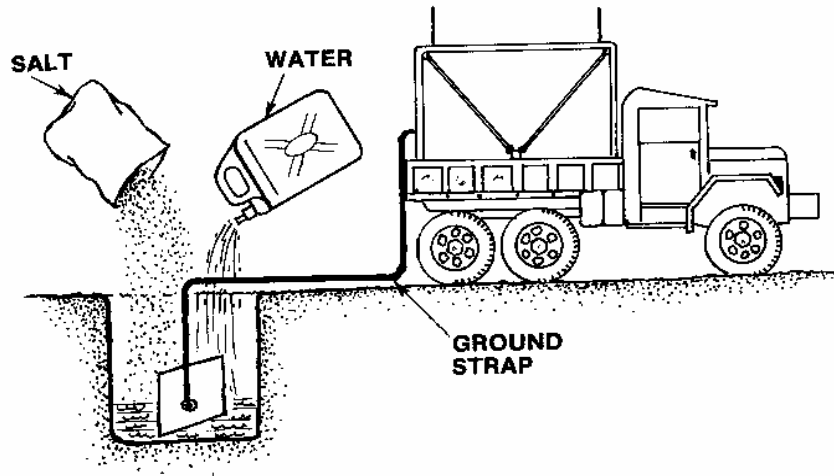

Figure 11 - Grounding plate installation
b. Dig a hole so that the plate can be buried vertically at 5 feet below the surface (see figure 11). Though some procedures recommend installing the plate horizontally, vertical installation ensures good soil contact on both sides of the plates. Pour a mixture of water and salt into the soil around the plate to further increase soil conductivity if necessary. See section 9 for information on improving soil conductivity.